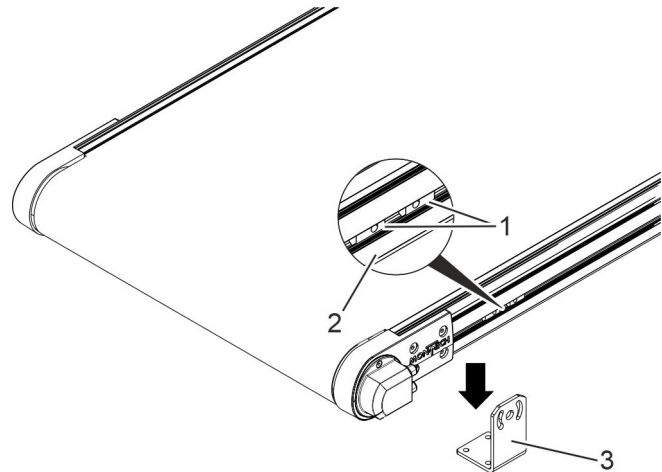
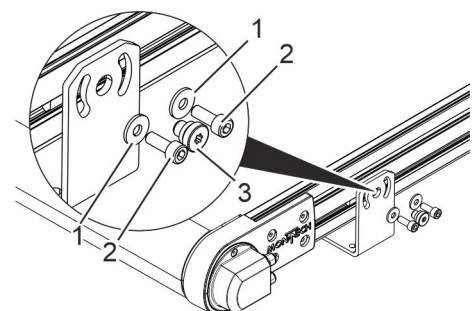

Fig. 18: Swiveling in the slot nut
Fig. 19: Fastening the conveyor
- 1.** ➤ Swivel the slot nuts (Fig. 18/1) into the lower groove (Fig. 18/2) of the conveyor.
- 2.** ➤ Place the conveyor on the mounting brackets (Fig. 18/3).
- 3.** ➤ Position the conveyor using the positioning screw (Fig. 19/3).
5. ➤ Fasten the conveyor to the mounting bracket (Fig. 18/3) using two cylinder head screws (Fig. 19/2) and washers (Fig. 19/1).